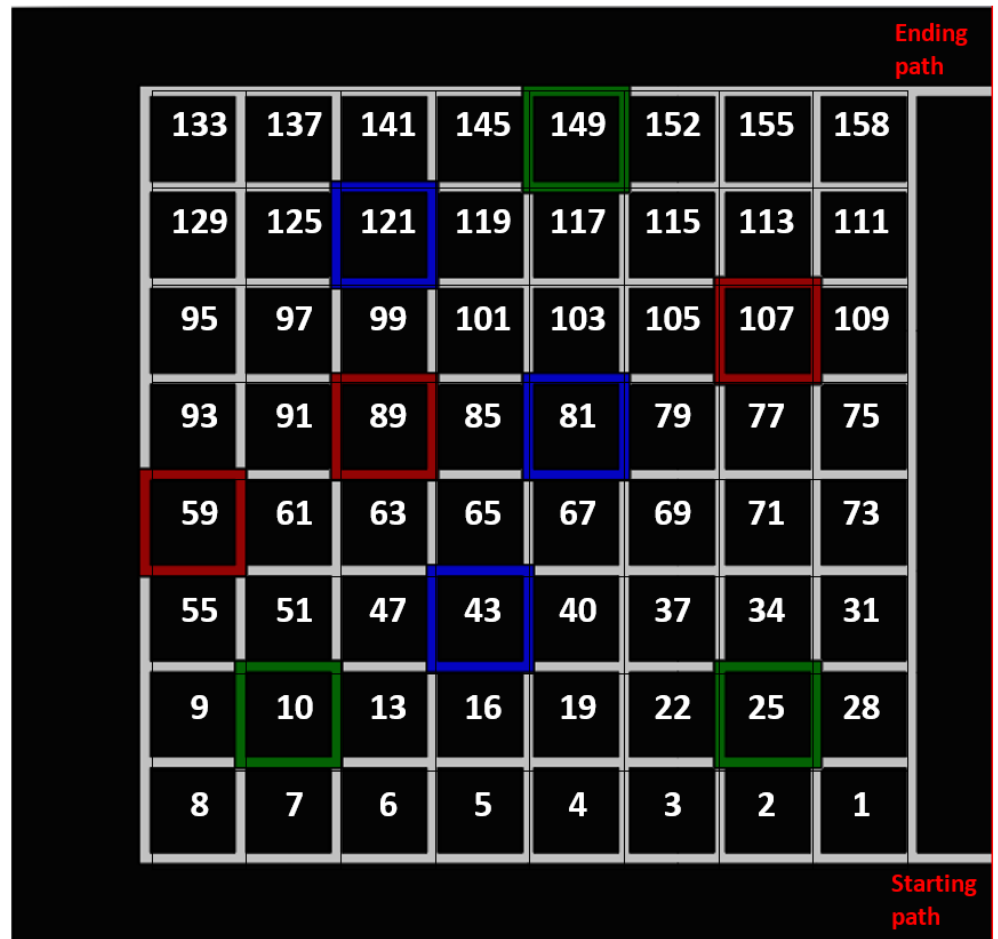
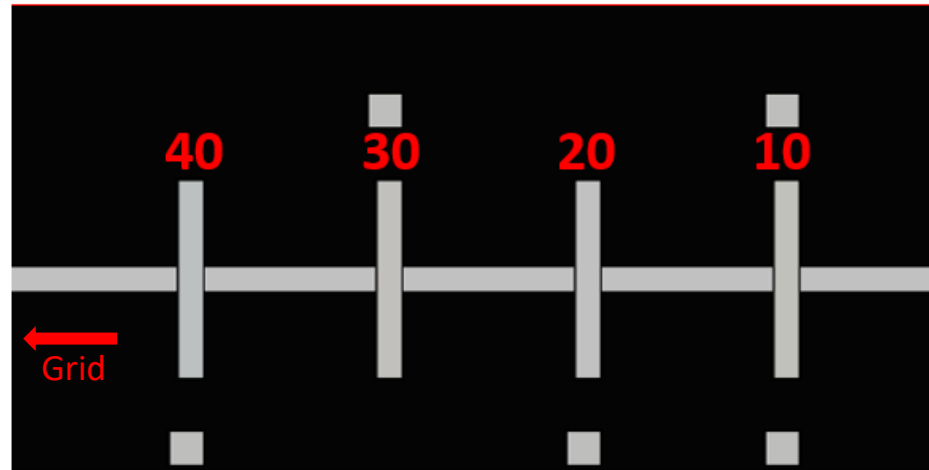

Figure 6: Grid numbering sequence
Figure 7: Indicating line position value
(Eg : In the Figure 6, you find a green square at 10, the next square will be 13 because the increment value of green is 3. The next few squares will be numbered three by three and will not change when you meet the green square at 25 because it's the same color. When you meet the blue square at 43, from there onwards numbering will be done four by four because the increment value of blue is 4. This will continue until the whole grid is numbered.)
- **The correct squares in which the coins should be placed can be identified in the following manner.** (Examples given are with respect to Figure 6 and Figure 7 which will not be the same in the arena)
(Eg : According to Figure 6,